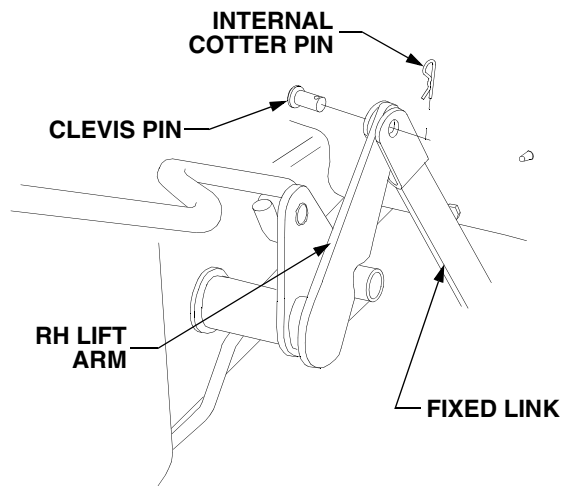

Figure 59
- Disconnect the fixed link from the RH lift arm by removing the internal cotter pin and clevis pin. Reinstall the clevis pin and internal cotter pin in the fixed link to avoid their loss. See Figure 59.
- From the right side of the tractor, grasp the fixed link and make certain it is clear of the right lift arm. Refer to Figure 59.
- Slide the fixed link of the deck over the RH lift arm. Align the holes, insert the clevis pin, and secure with the internal cotter pin (Refer to Figure 59).